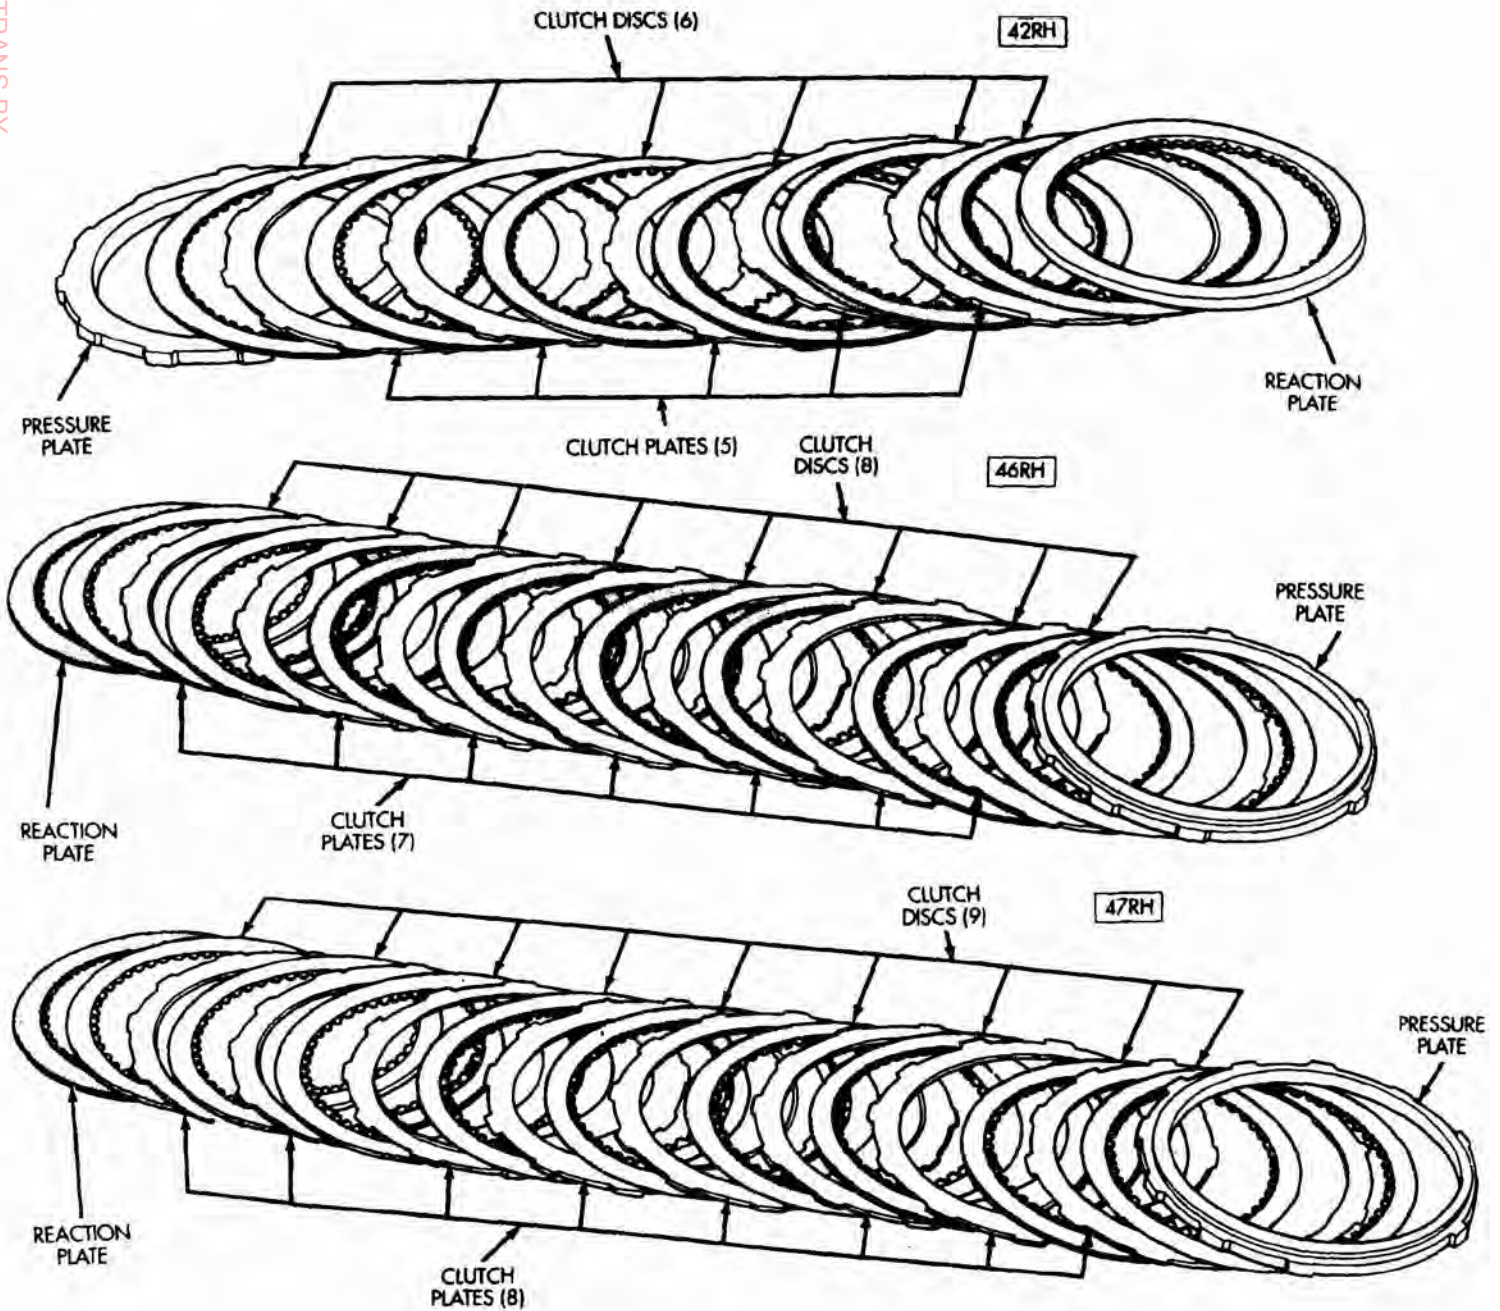

Fig. 56 Direct Clutch Pack Components
(19) Assemble direct clutch pack for installation on hub (Fig. 56).
plates are installed. **42RH requires 6 discs and 5 steel plates. 46RH requires 8 discs and 7 steel plates. 47RH requires 9 discs and 8 steel plates (Fig. 56).**